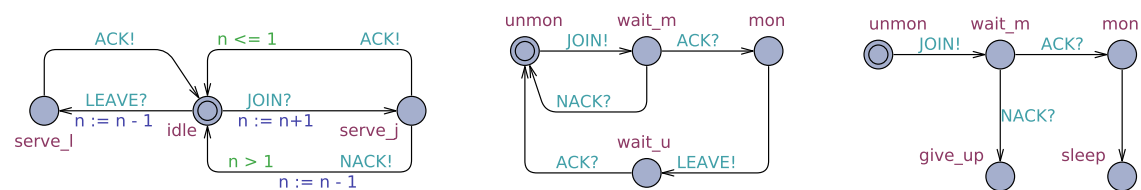

Figure 2: Network of Communicating Finite Automata
Provide the reachable part of the transition graph of the CFA model shown in Figure 2. (6)
The file `sensormaster.xml` includes a behavioural model of some aspects of the sensor/master system from Exercise Sheet 4. Note that the model in `sensormaster.xml` has similarities to the one shown in Figure 2 but is not identical in different aspects.